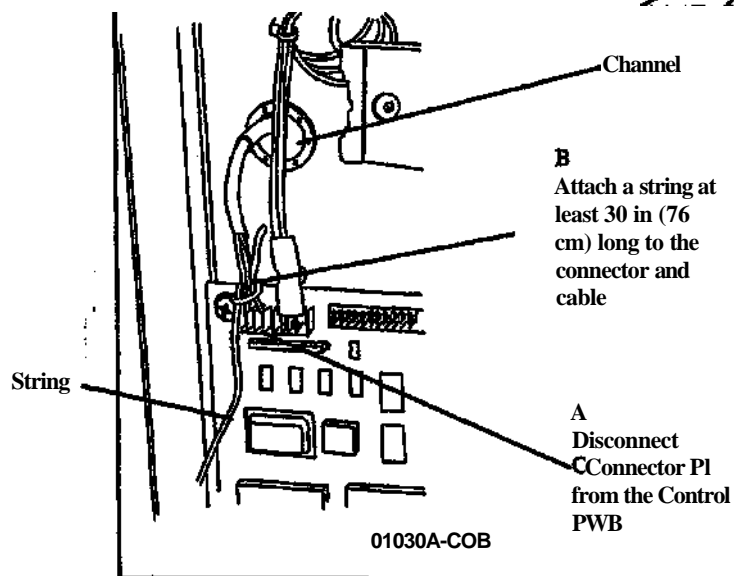

Figure 1. Disconnecting Connector P1
3. (Figure 1): Prepare to remove the Edge Present Sensor.